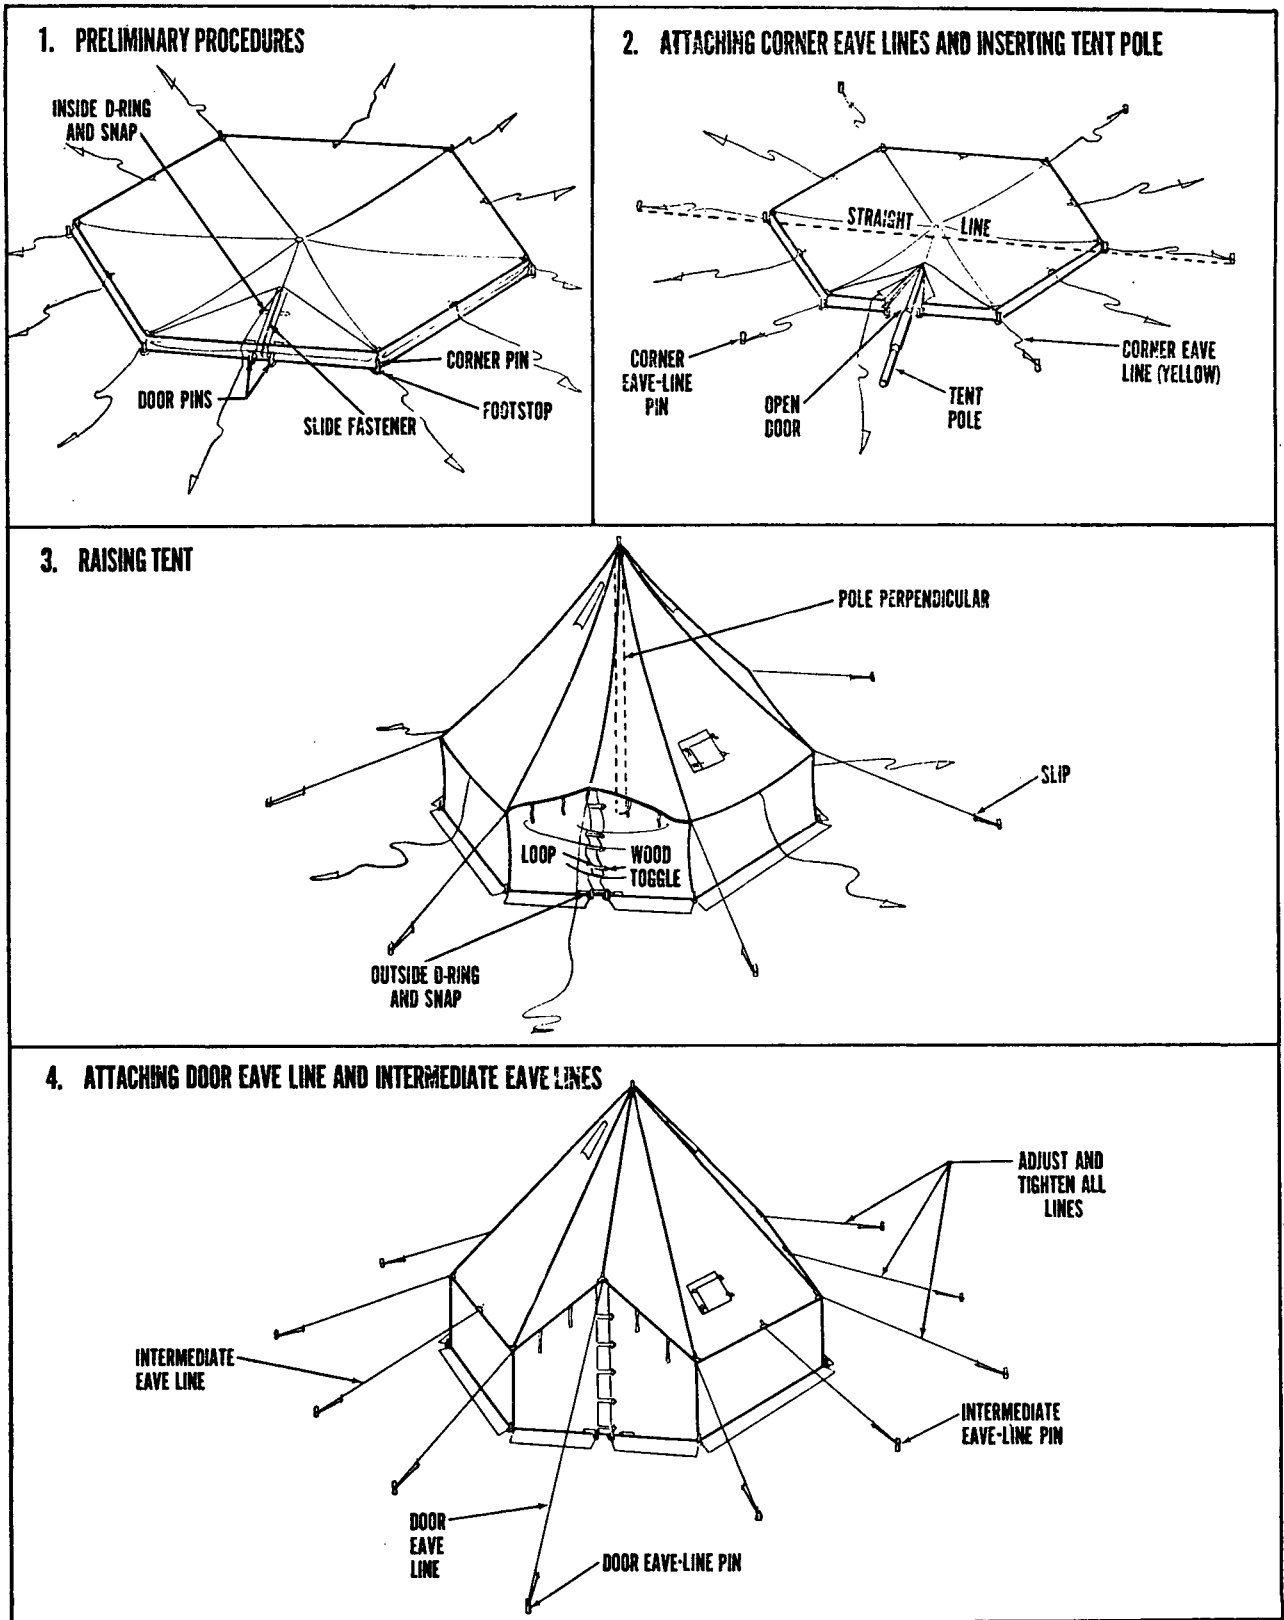

Figure 37. Steps in pitching tent, hexagonal, lightweight, M-1950.
(1) *Preliminary procedures* (1, fig. 37).
(2) *Attaching corner eave lines and inserting tent pole* (2, fig. 37).
- (3) *Raising tent* (3, fig. 37).
- (4) *Attaching door eave line and intermediate eave lines* (4, fig. 37).
- (5) *Propping up door eave line.* The door eave line can be propped up by placing the line over an improvised pole (tree branch or other object higher than the door entrance) at a distance of about 5 feet in front of the door and then staking the line out to a pin. This keeps the door from sagging, makes the slide fastener work better, makes the tent easier to get into and out of, and gives the tent greater stability.
- (6) *Fastening liner.* Fasten liner in place by inserting wire toggles, which are secured to tent, into grommets set in liner. Allow approximately 2 inches between tent and liner for insulating purposes. Tie tapes around stovepipe opening in liner to corresponding tapes around stovepipe opening in